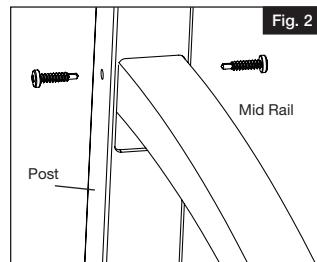

Fig. 2
- Drive #8 x $\frac{3}{4}$ " self-tapping screws into post holes and through rail holes (one on each side). Do not tighten completely (Fig. 2). Do for both top and bottom posts.